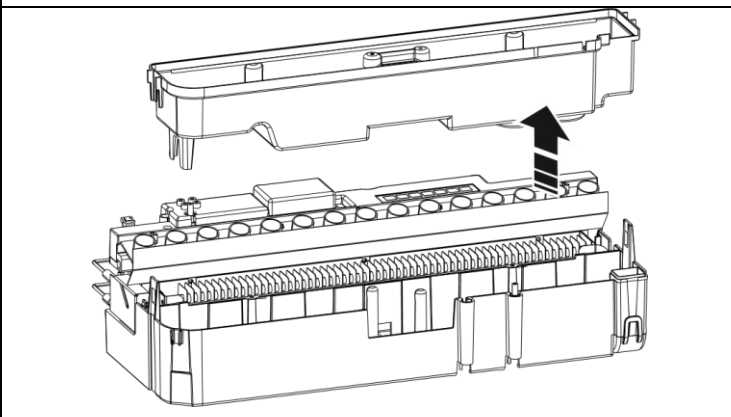

Fig 28
2. Gently slide the air filter upwards out of its plastic holder. (Fig 28)